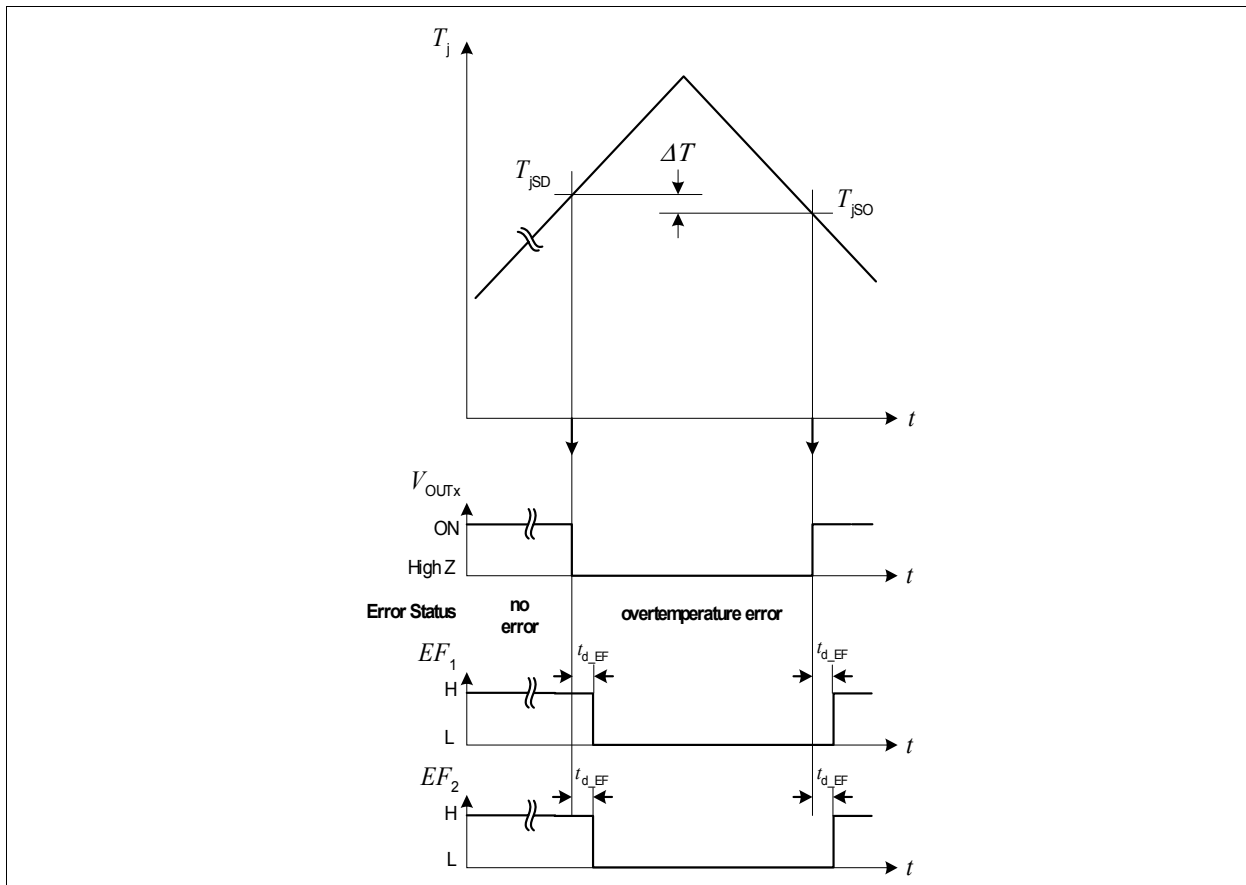

Figure 8 Overtemperature signalling
- b) **Over Temperature:** At a junction temperature higher than the thermal shutdown temperature T_{jSD} (typ. 175°C) the device enters thermal shutdown which turns-Off all four output stages simultaneously and the corresponding Error Flags are set with a delay. After cooling down to the thermal switch-on junction temp T_{jSO} the device will auto restart. A thermal toggle behavior can be observed (the Error Flags and output stages will be modulated by the thermal time constants; **Figure 8**).
Temperature sensors are integrated in the power stages. Each half bridge (HS+LS) is equipped with one temperature sensor. The temperature monitoring circuit compares the measured temperature to the shutdown thresholds. If one or more temperature sensors reach the shutdown temperature T_{jSD} , the overtemperature Error Flag is set to LOW. This Error Flag is not latched (i.e. if the temperature falls below the switch on threshold T_{jSO} , the Error Flag is automatically reset to HIGH again). This is shown in Figure 8 below.